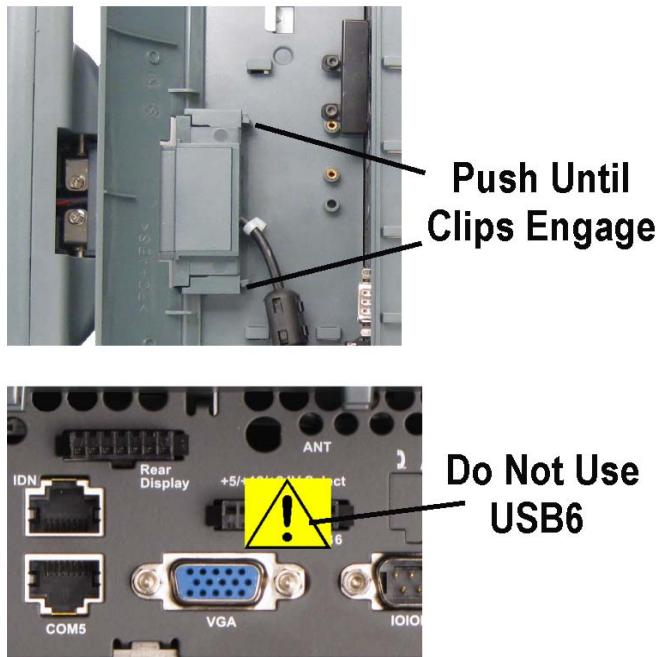

Figure 3-26: Installing the Integrated Customer Display
4. Feed the interface cable through the cut-out then insert the LCD customer display bracket until the side clips snap into place as shown in Figure 3-26.
5. Connect the interface cable to the IO panel 'Rear Display' connector as shown in Figure 3-26.